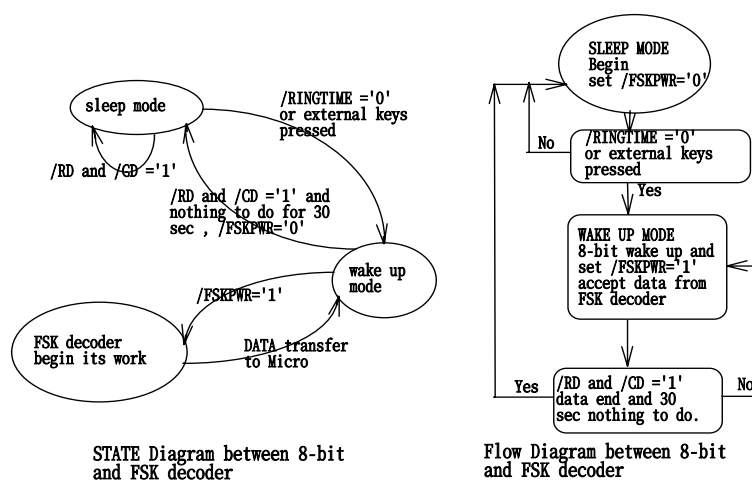

Fig.6 The relation between Bit0 to Bit3.
* The relation between Bit0 to Bit3 is shown in Fig.6.